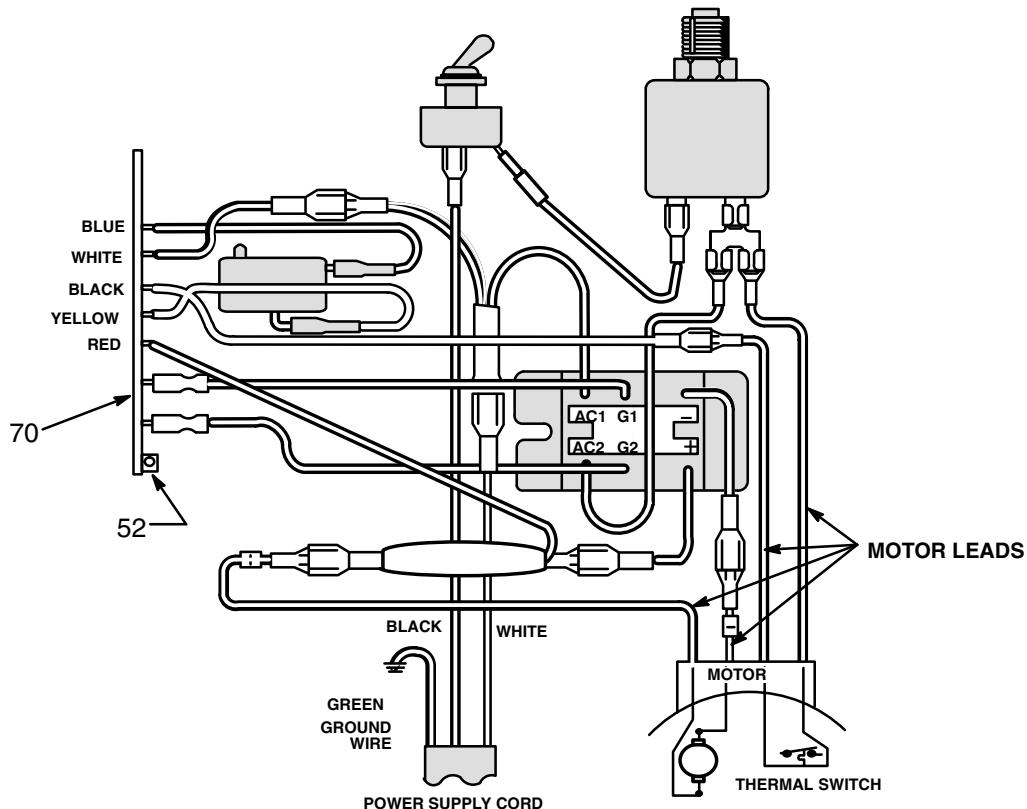

Fig 24-2
3. Disconnect ALL wires from the board, including the two heavy black wires. Pay close attention to where connections are made. See Fig 24-2.
4. Pull out the black plastic-tipped pin (52). Push the bottom of the circuit board toward the wall of the control and carefully slide the board out.
6. Reconnect all wires. See the wiring diagram in Fig 24-2. Ease the pin (52) into the retainer.
1. Disconnect the main fluid hose from the pressure control outlet (A). Disconnect the fluid hose (72) at the pressure control nipple (344). Remove the drain hose (61) by pushing back on the sleeve of the drain valve connector (34).
2. Hold the hex of the pressure control nut (B) firmly with a wrench. Remove the drain valve (32) and then the tee (84).
3. Remove the pressure control cover (63). Disconnect the four motor leads. *See Fig 24-2.*
4. Loosen the conduit connector (345). Pull the motor leads in the conduit (1) out of the pressure control.
6. Remove the three screws (8) and nuts (10) located below the pressure control. Remove the pressure control.
7. Remove the screws (23) holding the back mounting bracket (78) to the pressure control.
8. Install the new pressure control assembly in the reverse order of disassembly. Reinstate the conduit seal (28) around the wires in the conduit connector (345) to prevent motor contamination from entering the control. See the DETAIL below.